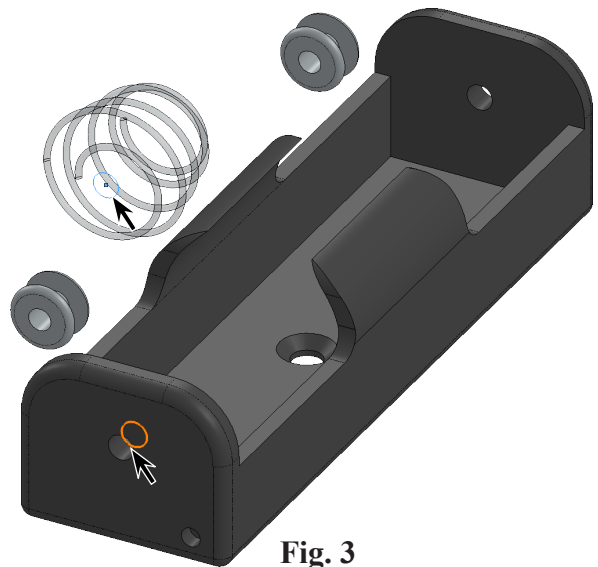

Fig. 3
Step 2. Click **circle Sketch in Spring** and **rear edge of front hole in Battery Holder**, Fig. 3.